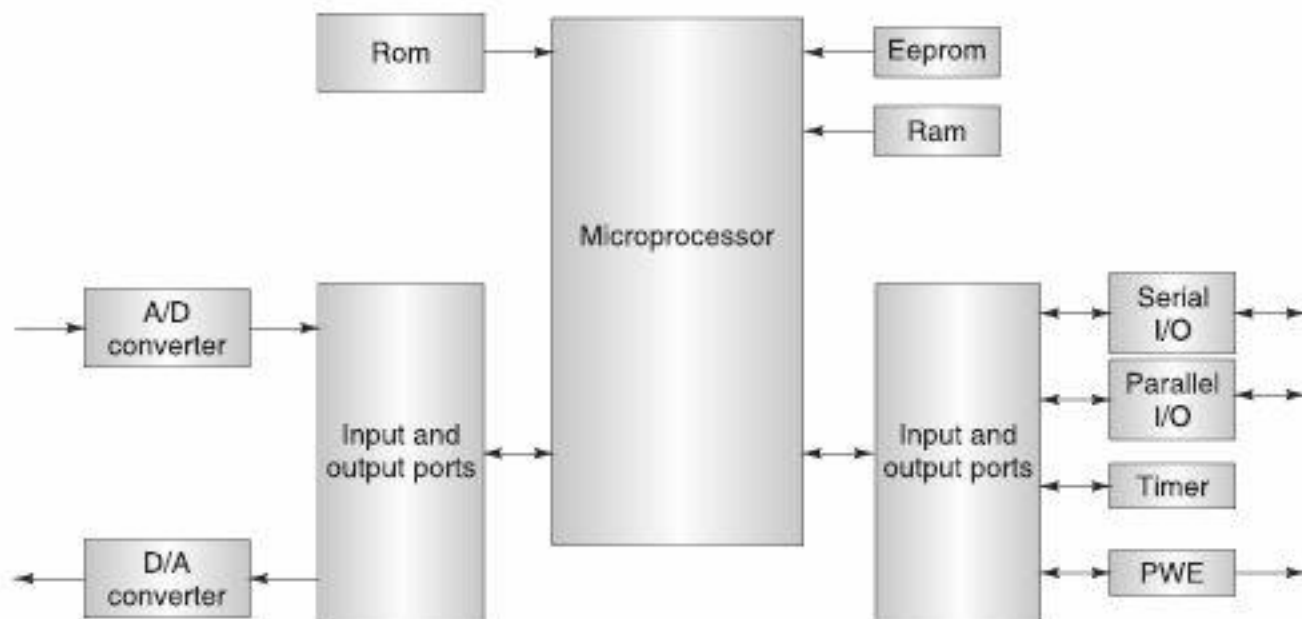

Fig. 8.1 Block Diagram of Microprocessor.
A microcontroller differs from a microprocessor in many ways. Early name for a microcontroller was microcomputer. The main difference between a microprocessor and microcontroller is the completeness of the machine each represents. In order to put a microprocessor into use the designer required memory peripheral chips and serial and parallel ports to make completely functional computer. On the other hand a complete computer based system could be built using single chip microcontrollers, with a minimum of external components. Figure 8.1 shows a simplified block diagram of a microprocessor, which consists of an arithmetic and logic unit (ALU), general-purpose registers, stack pointer (SP), program counter (PC), clock timing circuits and interrupt circuits.